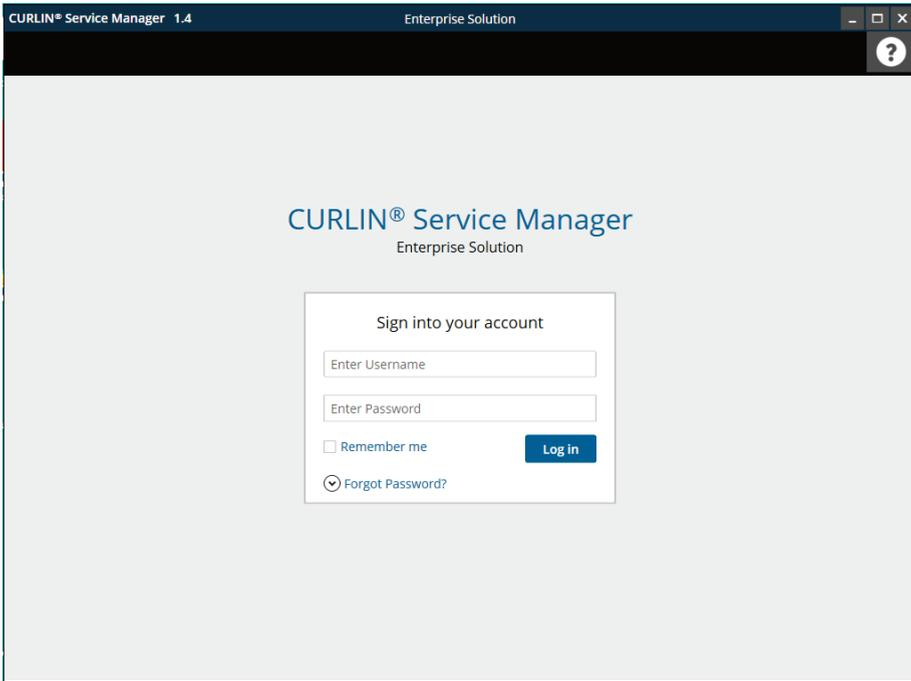

Figure 1-3: Logging In
3. Type your username and password in the appropriate fields (Figure 1-3).